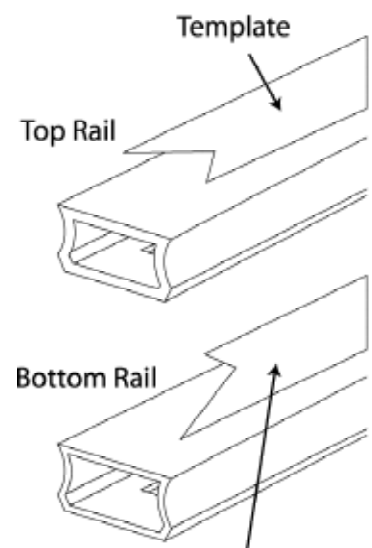

Figure 10
4. Position the template on the non-routed flat side of the top rail. Mark the proper cutting angle (Fig. 10).
5. Flip the template over and place the template on the non-routed flat side of the bottom rail (Fig. 10). Mark the proper cutting angle.